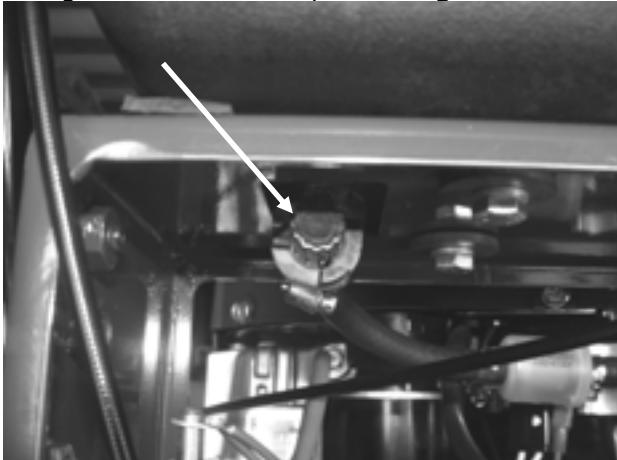

Figure 57
5. Turn gas tank valve to Off position **Figure 57**.